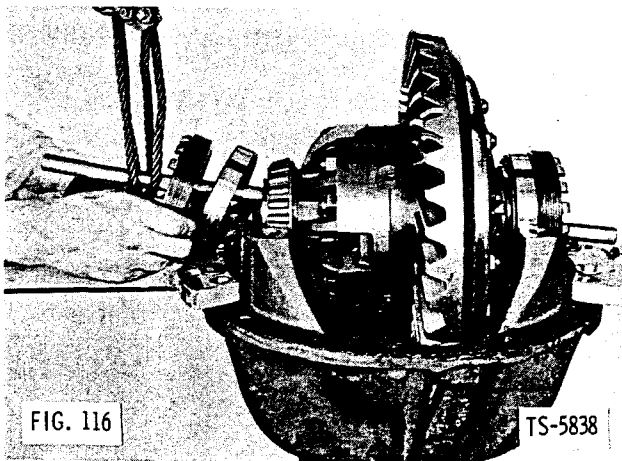

FIG. 116
8. Position differential bearing cup and differential adjusting nut on lifting bar on one side of differential and lift bar slightly with hoist. Position bearing cup and adjusting nut in position on carrier (Fig. 116). Repeat procedure and install opposite bearing cup and adjusting nut. Take care to prevent cross-threading of nuts.